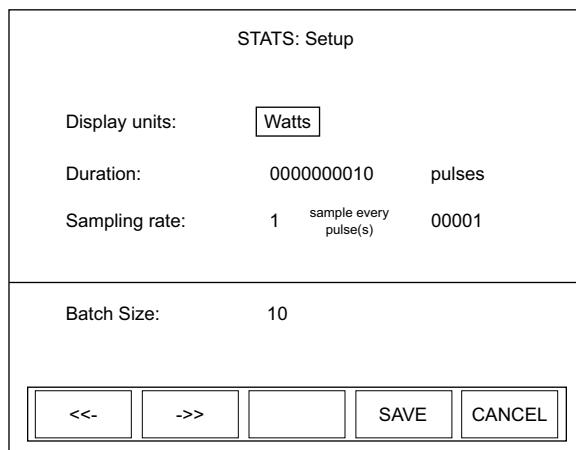

Figure 4-17. STATS: Setup (Pyroelectric Sensors - Power)
- Pyroelectric sensor measuring *power* (Figure 4-17)